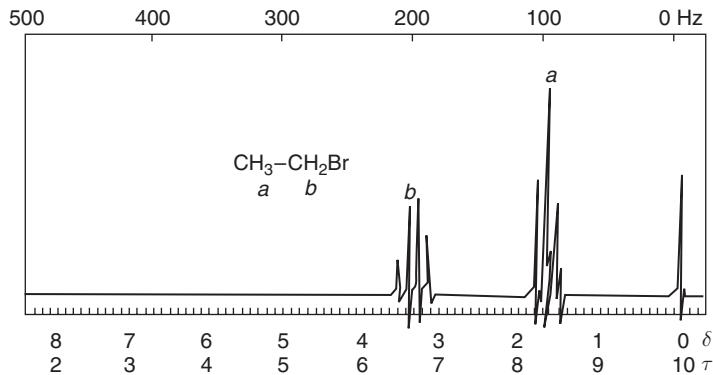

Figure 37 NMR spectrum of ethyl bromide.
1. **Ethyl bromide:** In ethyl bromide molecule, there are two types of protons which are magnetically equivalent. Therefore, one can expect two signals in its NMR spectrum (Figure 37). Two signals, (a) a triplet at δ 1.7, 3H and (b) a quartet at δ 3.4, 2H are observed in addition to the signal due to the reference TMS.